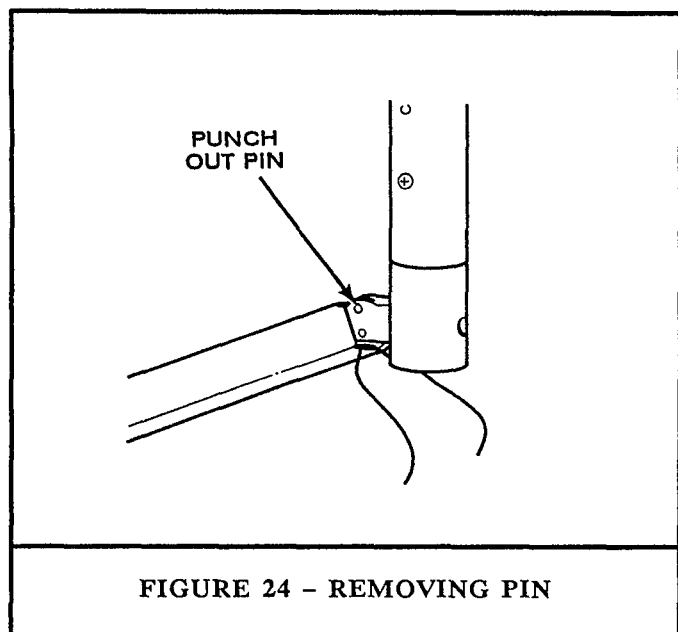

FIGURE 24 - REMOVING PIN
E. Punch out pin as shown in Figure 24, allowing arm to come off.